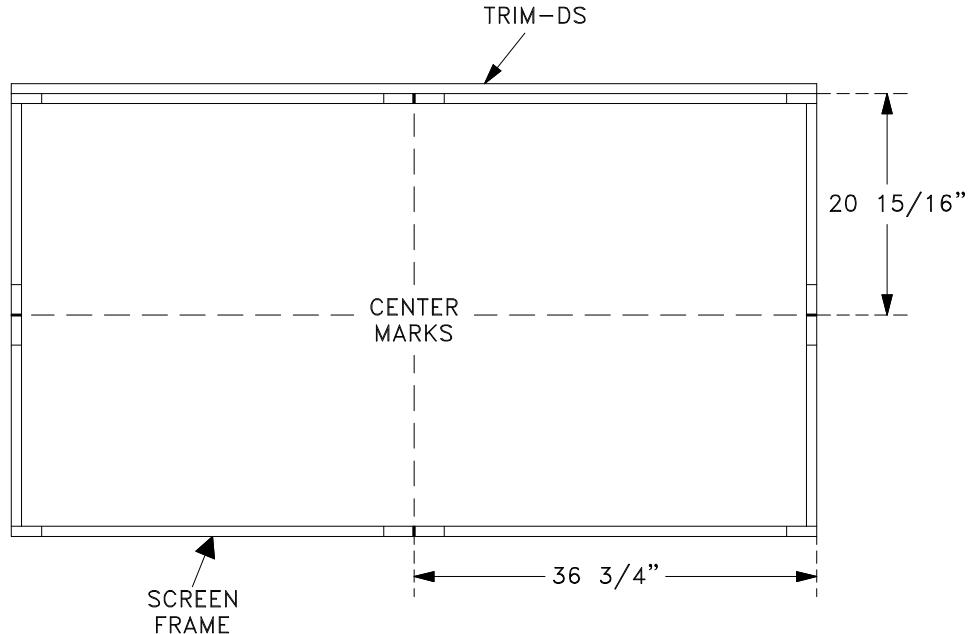

Figure 2: Marking the Screen Center Points
1. Attach masking tape to the center of each side of the screen frame. (Fig.2)
(Fig.2)